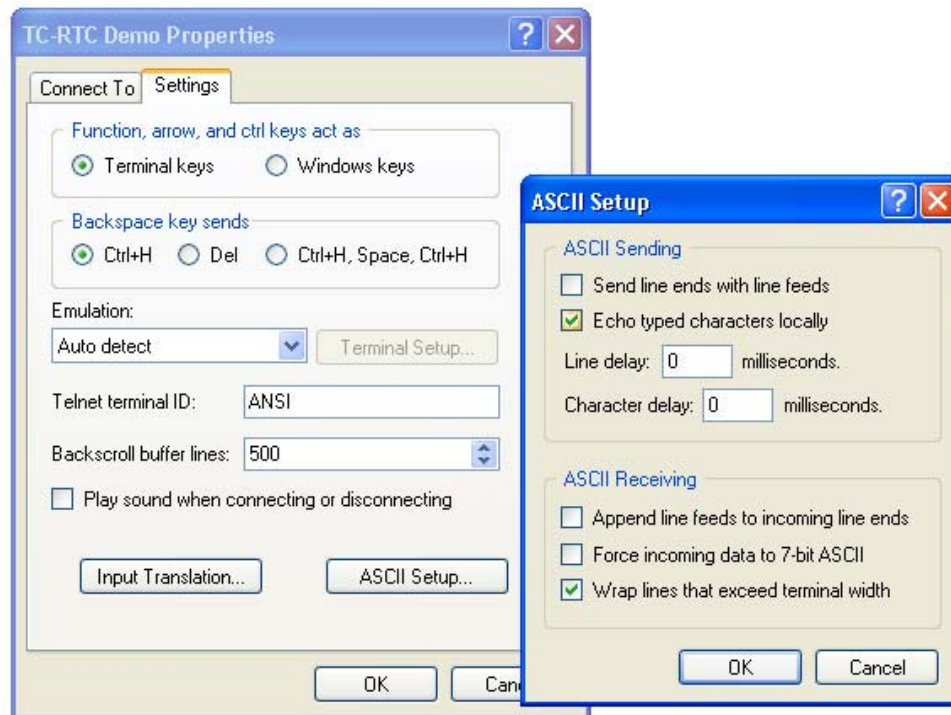
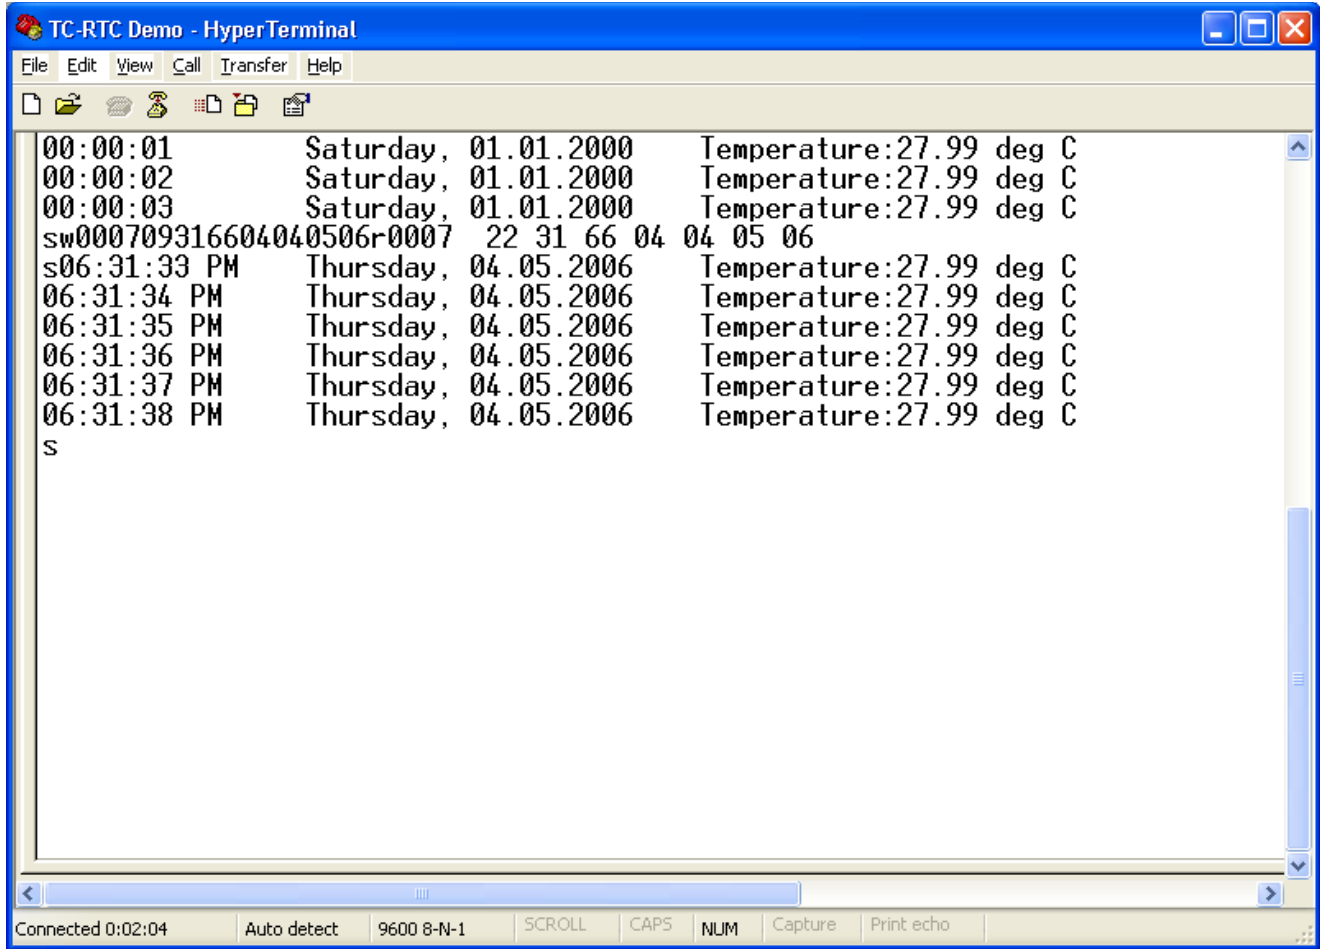

Figure 4. HyperTerminal ASCII Setup
Figure 5. Interacting with the TC-RTC—HyperTerminal Session
5. Select "File→Properties→Settings→ASCII Setup". Check the box marked "Echo typed characters locally", and click OK. See Figure 4.
2. Depending on which type of debug adapter you have, set up the hardware as shown in one of the two diagrams below (Figure 4, Figure 5). Consult the C8051F300DK User's Guide if you need detailed instructions.